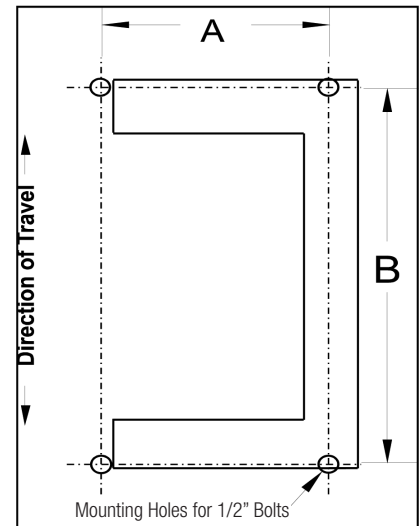

Figure 10-1
- Series D, E, & F Reels are mounted using four (4) 1/2" Bolts.
- See **Figure 10-1** and **Table 10-1** to determine spacing for mounting holes.